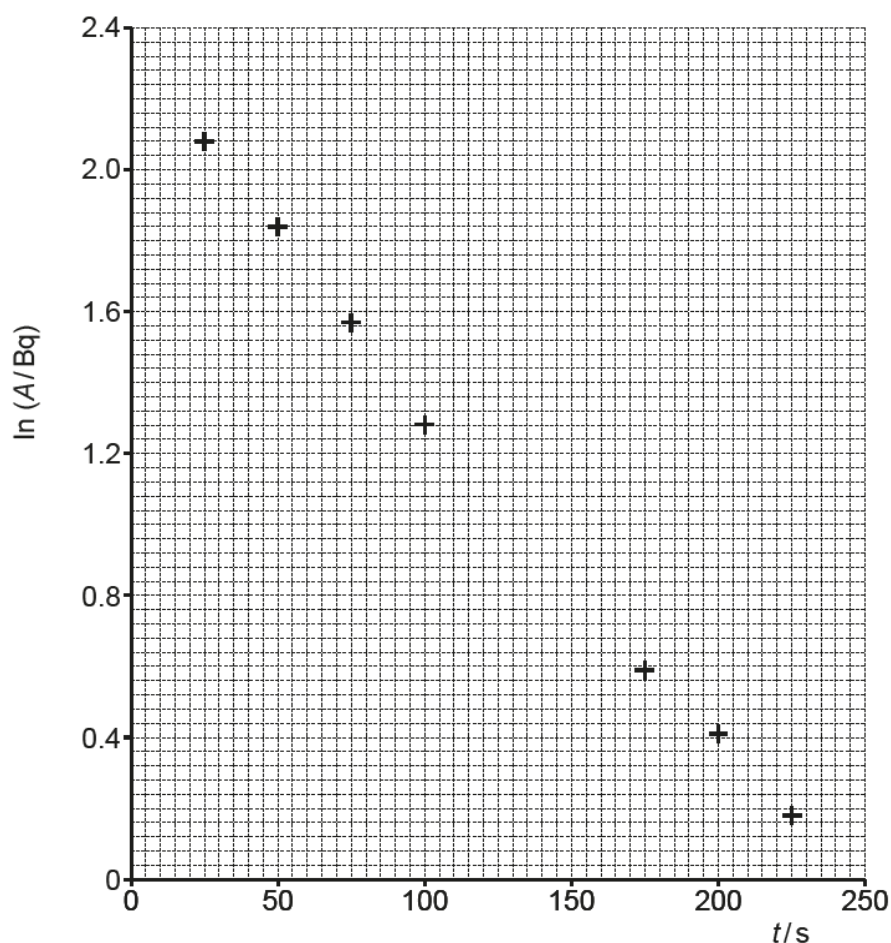

Fig. 2
- (iii) A graph of  $\ln(A/Bq)$  ( $y$ -axis) and  $t$  ( $x$ -axis) is drawn in Fig. 2. Plot the remaining points on the graph and draw the line of best fit.